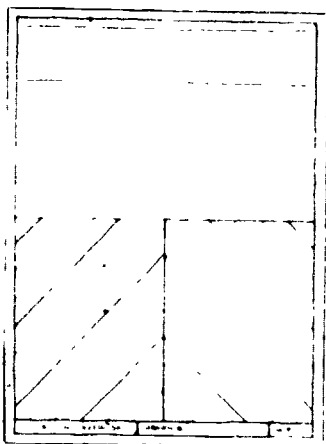

Fig. 3.5
1. Sketch the line technique exercise in Fig 3.5. Use 9 x 12 paper with $\frac{1}{4}$ " grid.